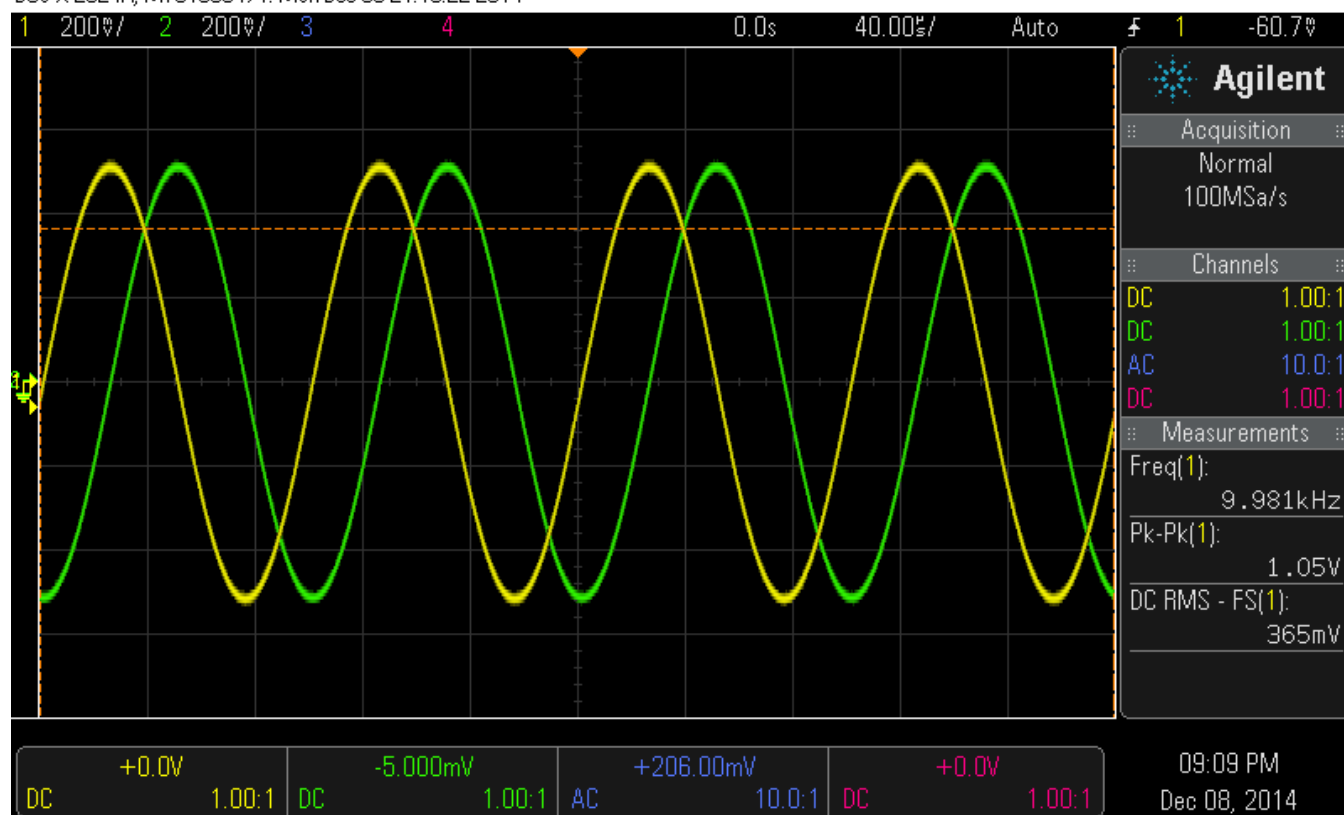

Figure 24. CW Output
6. The oscilloscope displays the frequency I and Q signals at 10 kHz as shown in Figure 24. The amplitude should be around 1.3 Vpp $\pm$ 200 mVpp, though this amplitude may change. The frequency should be 10 kHz and signals should be 90 degrees out of phase.